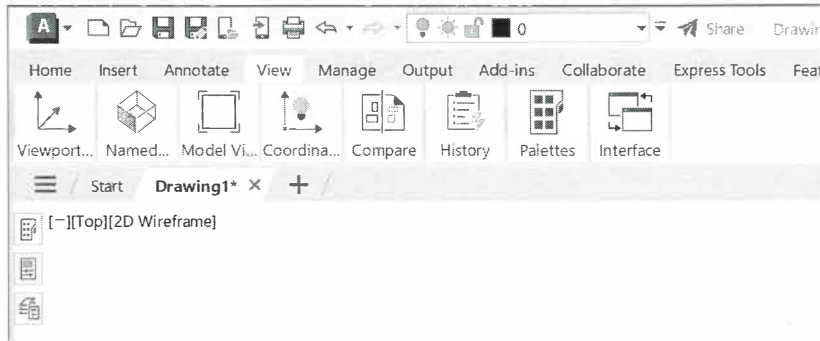

Figure 1–1
As you learn the various ways of working with the AutoCAD® software, you need to set up your personal workspace. You can specify how the ribbon tabs and panels display, which tool palettes you want open, and how you want them to be organized, as shown in the example in Figure 1–1. When you are finished, you can create a new workspace to save the arrangement.
-  (Workspaces) controls the display of ribbon tabs and panels, tool palettes and other palettes, and even the Command Line. You can select from the default workspaces, as shown in Figure 1–2, or create a custom version.